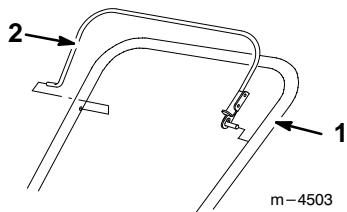
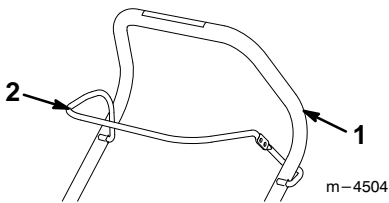

Figure 7
Figure 8
- Install the control bar on the upper handle as shown in Figure 7 (models 38428 and 38429) or Figure 8 (models 38441 and 38442).